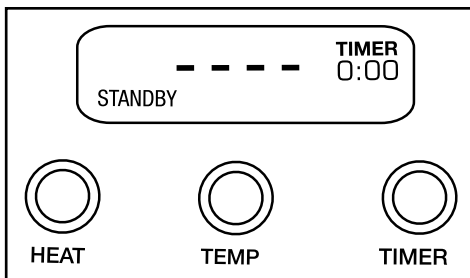

Figure 1
- 120, 208 and 240 volt units are supplied with a molded 3-prong grounding-type plug and should be used in combination with a properly connected grounding-type outlet, as shown in Figure 1.
**NOTE:** The Induction Range requires induction-ready cookware. If the pan is not induction ready, it will not register on the induction range. The LCD display will show “-----” and “STANDBY” will flash (as seen in figure 1) when attempting to select a heat mode without an induction-ready